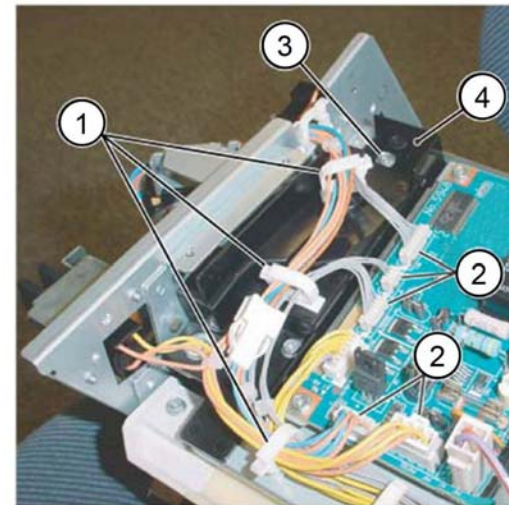

Figure 1 Connector bracket removal
6. Remove the connector bracket, Figure 1:
- a. Release the harness from the three clamps (1).
- b. Disconnect five connectors (2).
- c. Remove two screws (3).
- d. Remove the connector bracket (4).